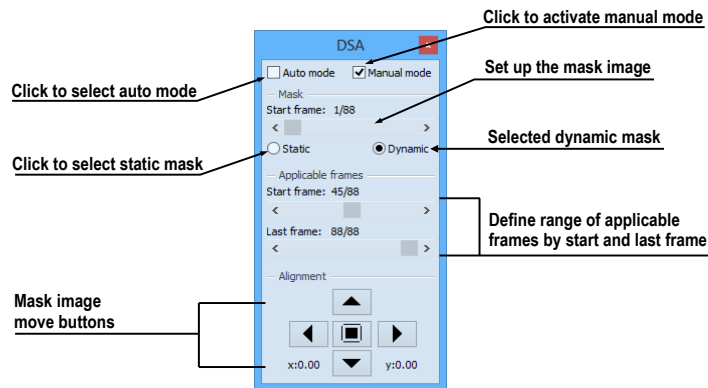

Figure 167 – DSA tool
2. Select the **Manual mode** in the **DSA** tool (see Figure 167).